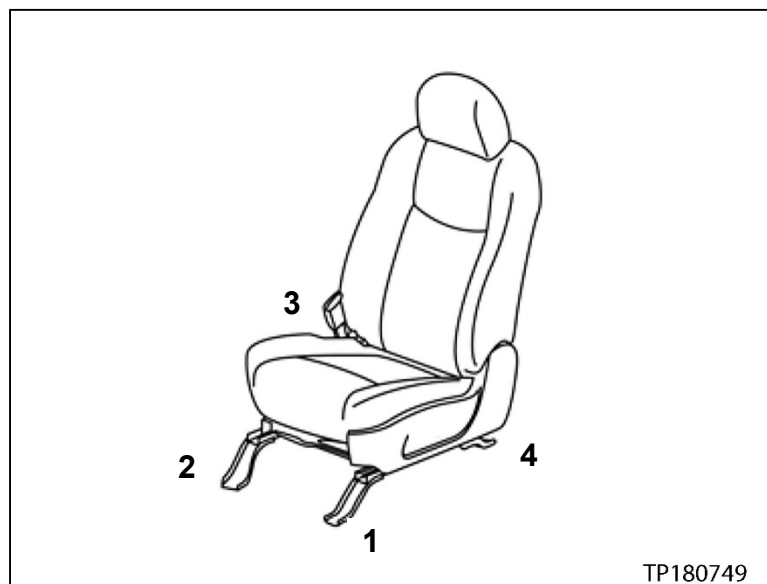

Figure 9
- Torque the bolts in the sequence shown in Figure 9.